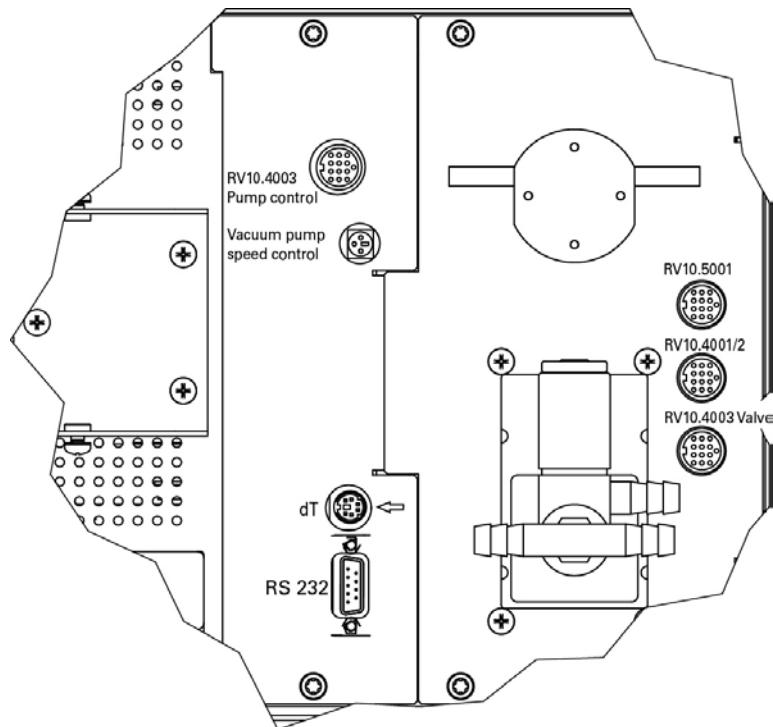

Fig. 20
- ☞ Insert the valve connector cable (RV 10.5001 or RV 10.4001/2 resp. RV 10.4003 Valve) resp. the network cable (RV 10.4003 pump control) into the appropriate socket (fig. 20) or connect the speed-regulated vacuum pump. As a result, the RV10 control automatically switches to normal speed-vacuum control operation.
The RS 232 interface at the back of the device, see fig. 20, is fitted with a 9-pole SUB-D jack and can be connected to a PC. The pins have serial signals. The USB interface is located on the left-hand side of the display on the drive unit and can be connected to a PC using the USB cable supplied.